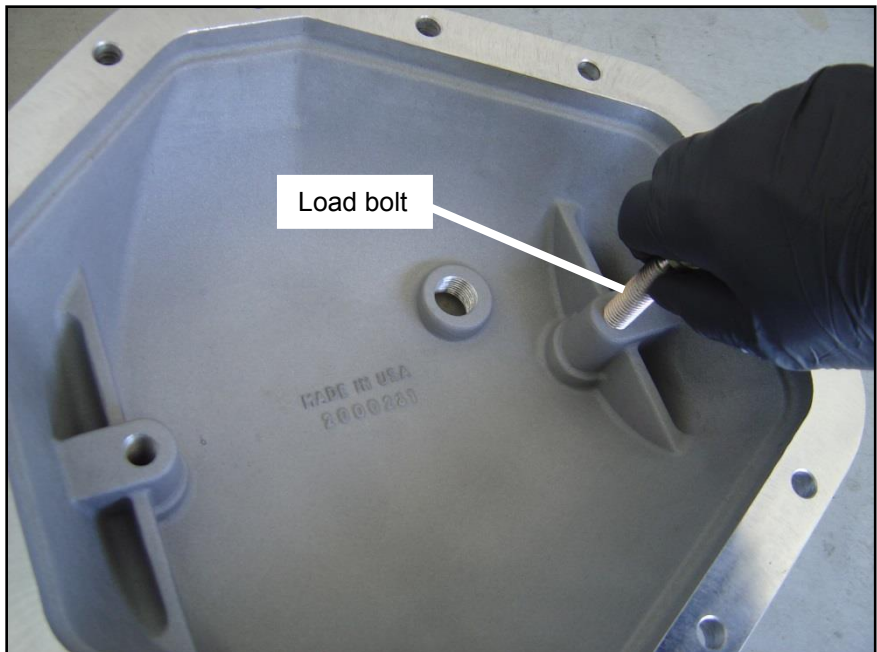

Figure 3
STEP 11. Install the supplied load bolts in each boss from the inside of the **B&M Cast Aluminum Rear End Cover** until they bottom out (See Figure 3 & 4).